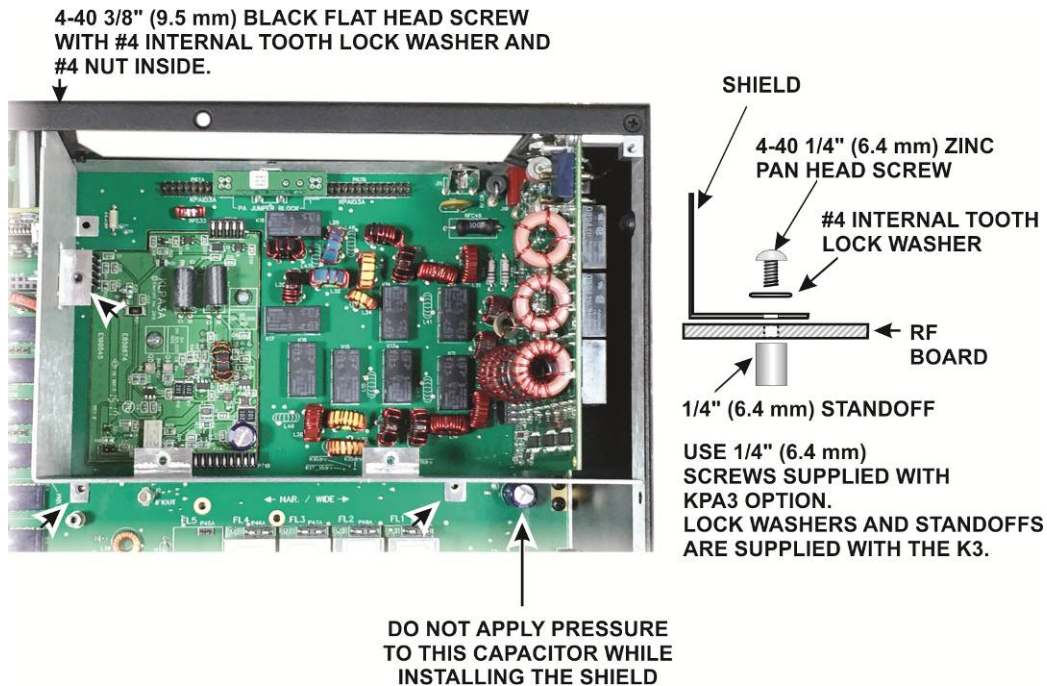

Figure 87. Attaching the KPA3A Shield.
□ Attach the shield to the RF board and to the rear panel as shown in Figure 87. The screws, washers and nut are in the KPA3A Option kit. The standoffs are part of the K3S kit hardware.